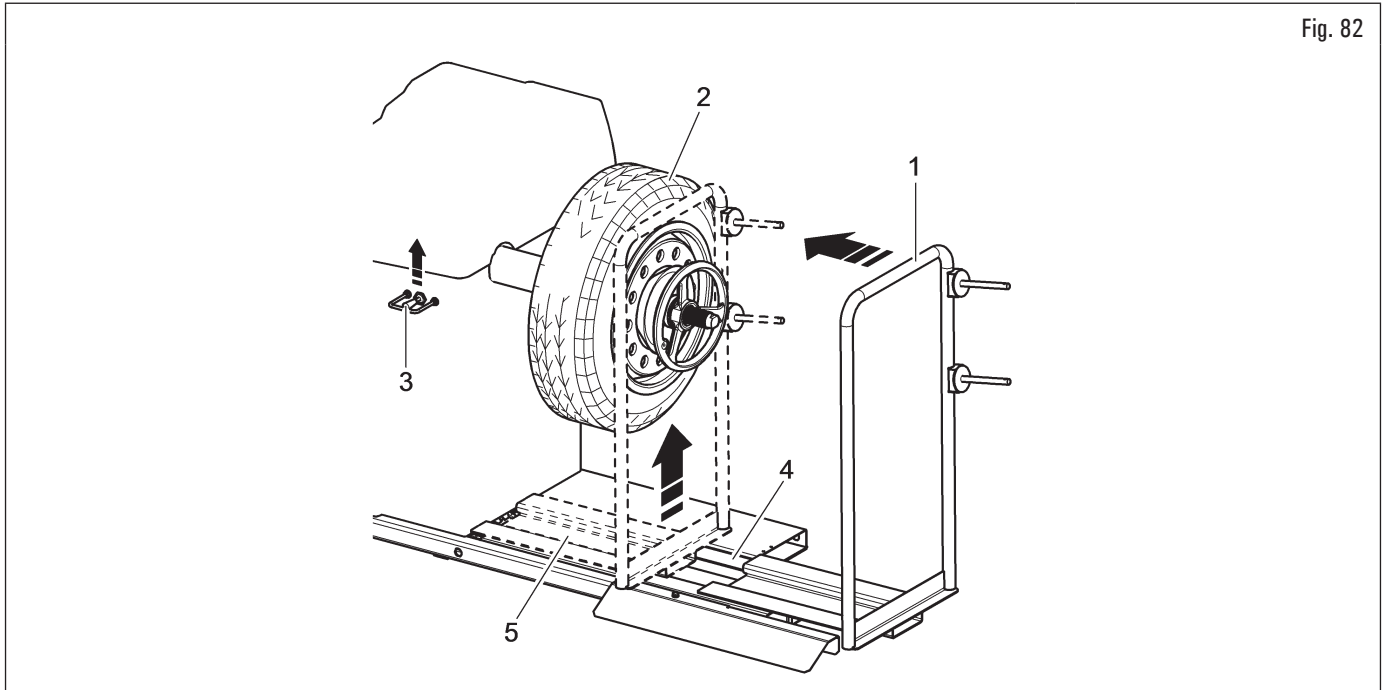

Fig. 82
1. Move the wheel support towards the left (Fig. 82 ref. 1) and bring the wheel support plane (Fig. 82 ref. 5) under the tyre (Fig. 82 ref. 2);
2. lift the lifting device control (Fig. 82 ref. 3) and lift the footboard (Fig. 82 ref. 4) until the wheel support (Fig. 82 ref. 5) comes into contact with the tyre (Fig. 82 ref. 2);